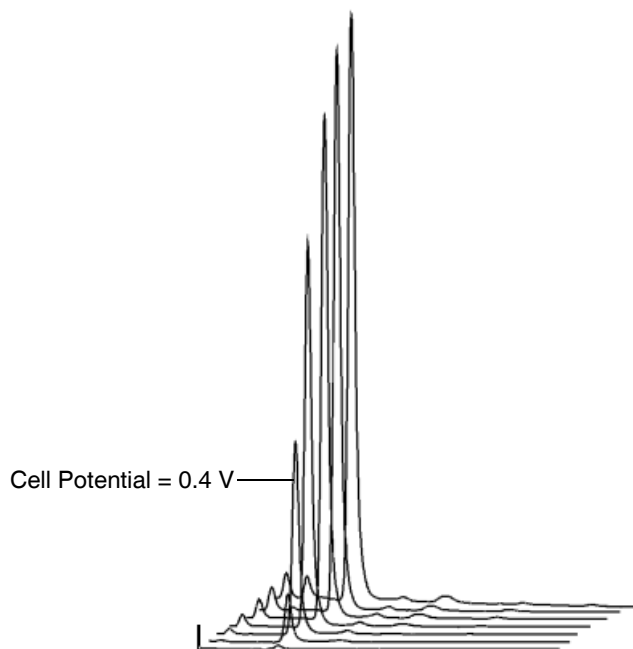

Figure 3-67 Constructing a Hydrodynamic Voltammogram for Norepinephrine
- If a peak is measured, decrease the working potential by 50 or 100 mV, and repeat steps 2 to 4 until the lowest potential setting is obtained. Figure 3-67 shows chromatograms that were obtained at cell potentials ranging from 1.0 V (back) to 0.4 V (front), with 100-mV steps.